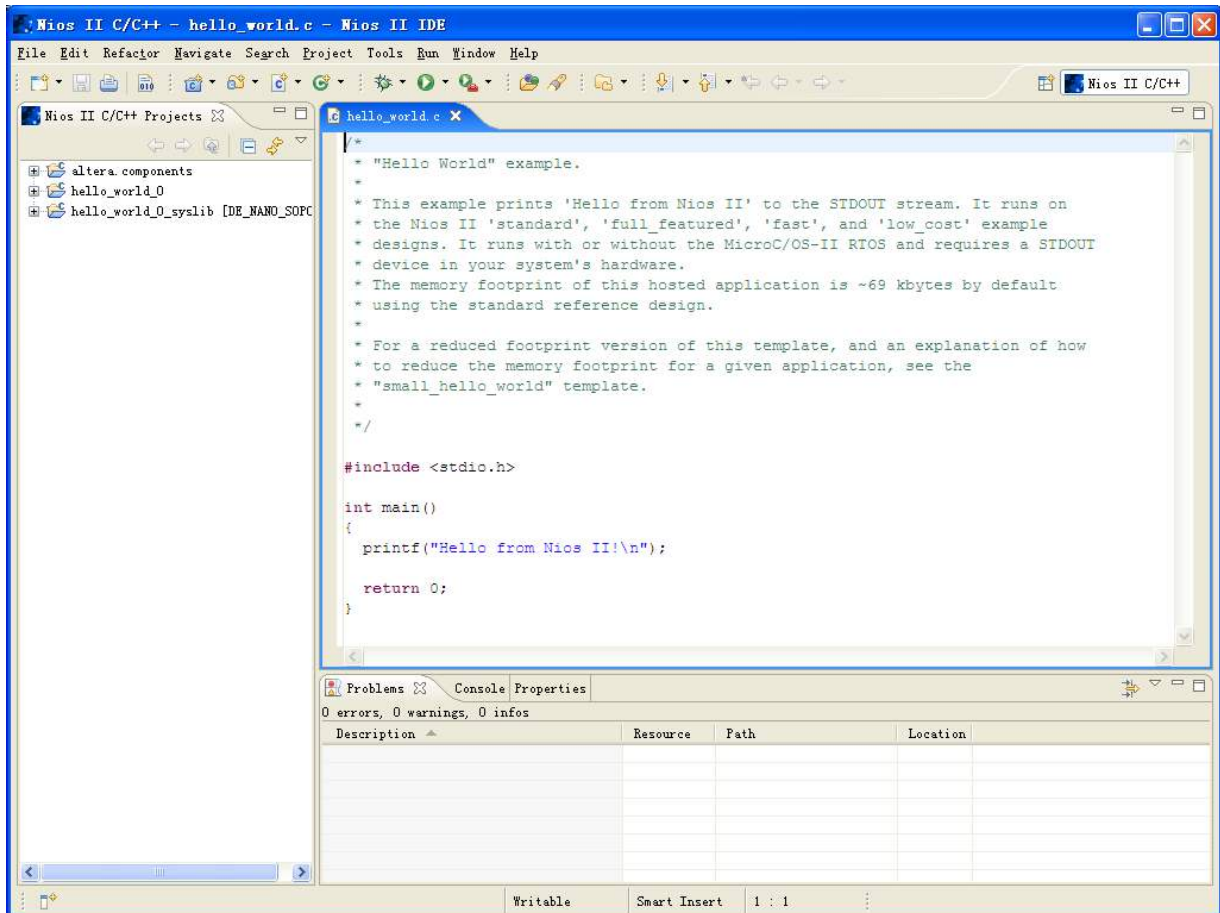

Figure 7-56 Nios II IDE C++ Project Perspective for hello_world_0
5. Click **Finish**. The NIOS II IDE creates the **hello_world_0** project and returns to the NIOS II C/C++ project perspective, as shown in **Figure 7-56**.